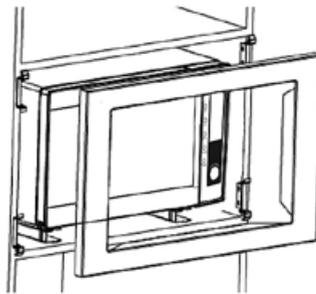

Fig. 5
6. Put the frame in the holders in the corners of the box (Fig. 5)